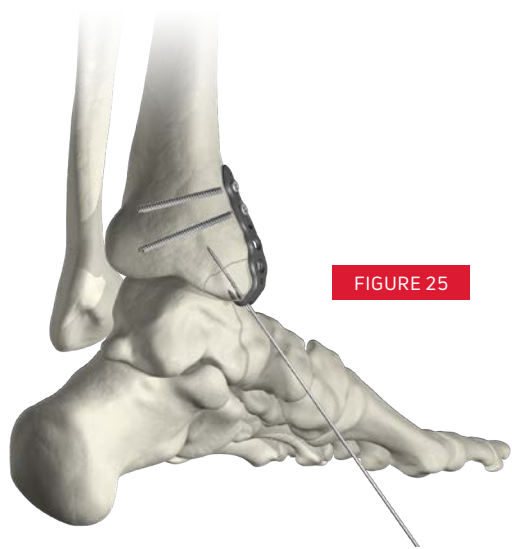

FIGURE 25
**11. (OPTIONAL)** Based on surgeon preference, a 4.0mm cannulated screw may be placed between the tines in an oblique fashion. At this time, a 0.045" K-wire placed in the central aspect of the Arsenal Ankle Hook Plate Drill Guide can be used or a 0.045" placed for guidance (**FIGURE 25**).